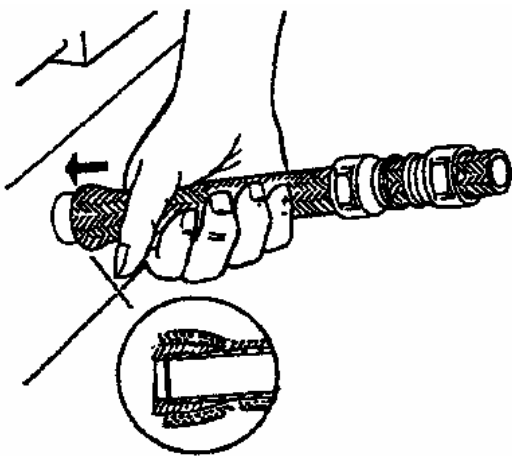

Figure 3. Positioning Sleeve
l. Complete positioning of sleeve by pushing sleeve against a flat surface until tube bottoms against shoulder of inside sleeve diameter (Figure 3).